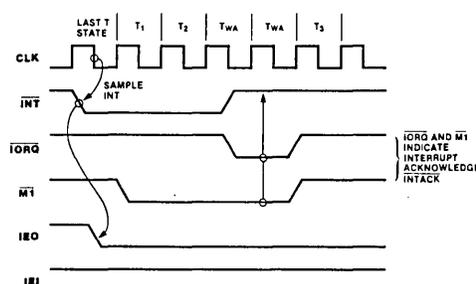

Figure 18. Interrupt Acknowledge Timing
**Interrupt Acknowledge Timing.** During  $\overline{MI}$  time, peripheral controllers are inhibited from changing their interrupt enable status, permitting the Interrupt Enable signal to ripple through the daisy chain. The peripheral with IEI High and IEO Low during INTACK places a preprogrammed 8-bit interrupt vector on the data bus at this time (Figure 18). IEO is held Low until a Return From Interrupt (RETI) instruction is executed by the CPU while IEI is High. The 2-byte RETI instruction is decoded internally by the PIO for this purpose.